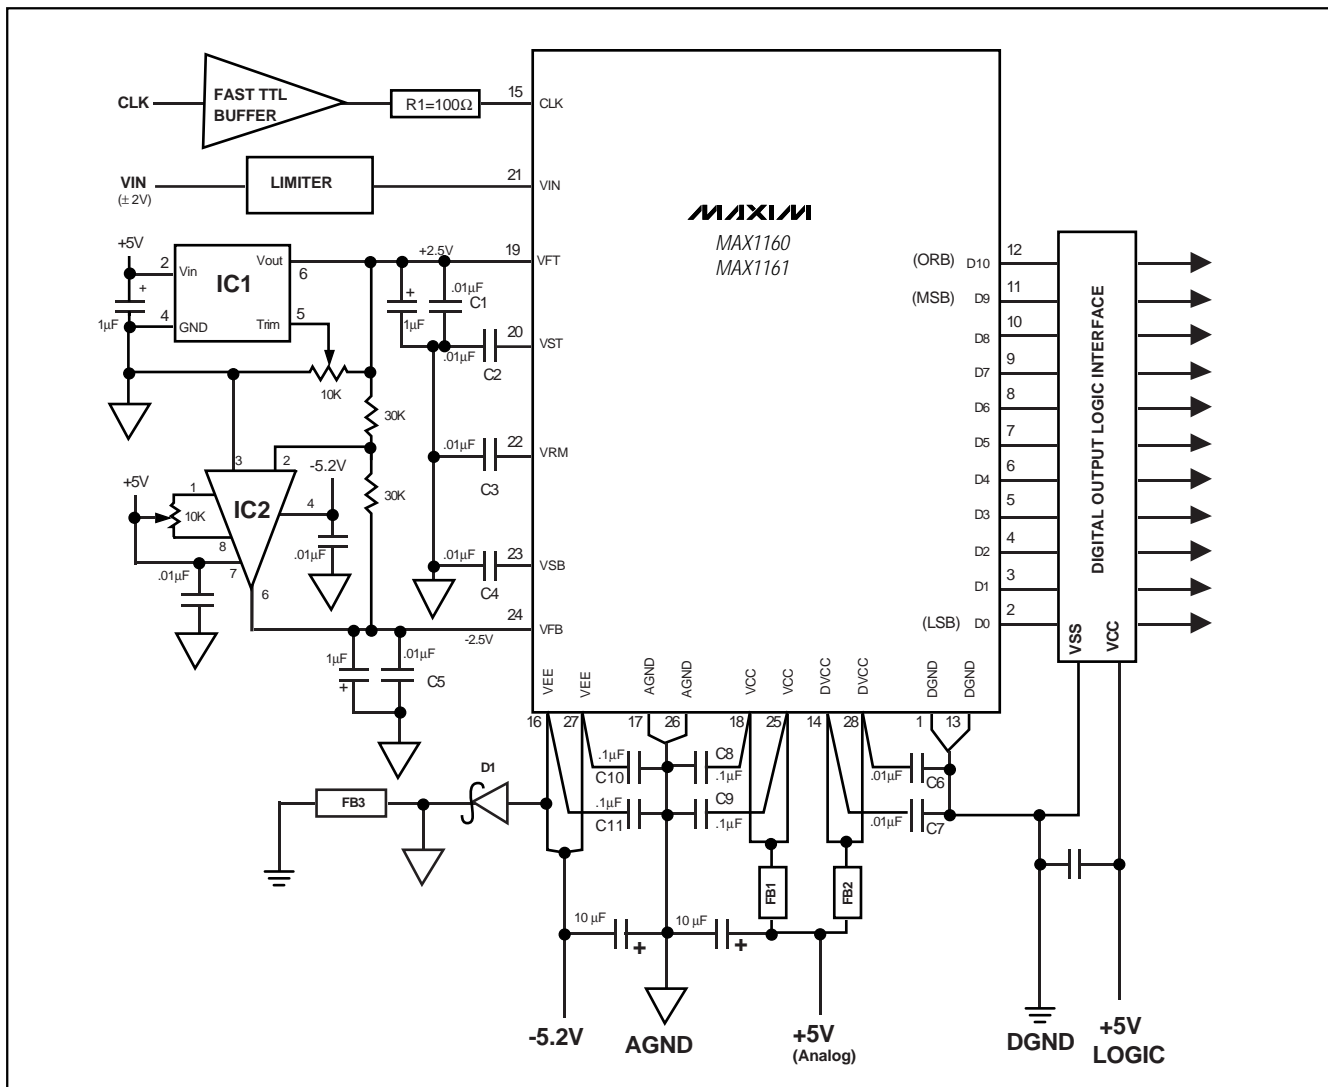

Figure 11. Typical Interfacing Circuit
The MAX1160/MAX1161 are free from latchup when the recommended interfacing circuit is used (Figure 11).
- 6) The top reference (VFT) driver must be current limited to 20mA (max) if a different reference-driver circuit is used in place of the recommended circuit (Figure 11).